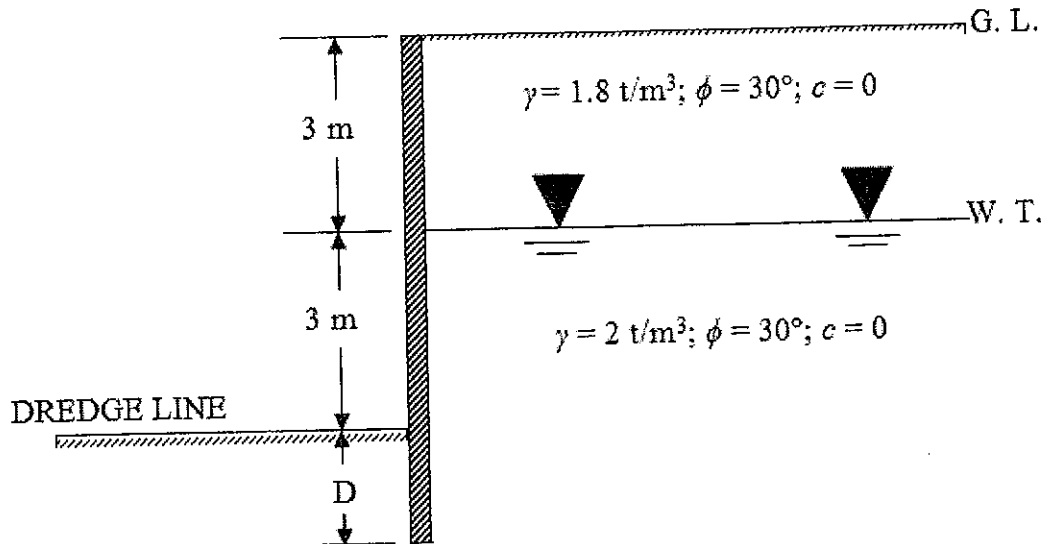

Fig. 2
4. Compute the embedment depth 'D' of the sheet pile wall as shown in Fig. 2. [8]